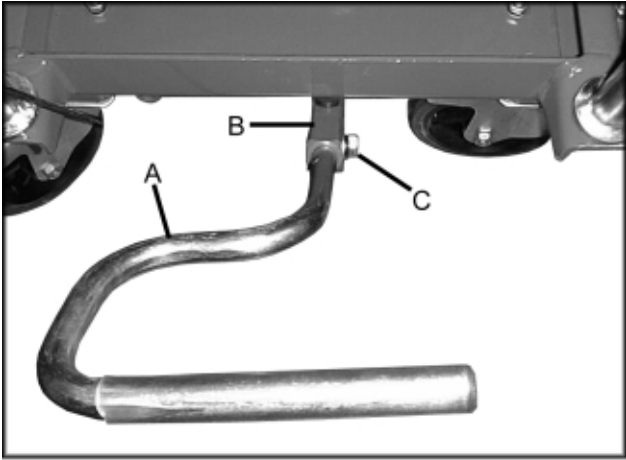

Fig. 2
2. Attach foot lever (A, Fig. 2) to the lever bracket (B, Fig. 2) with one hex cap bolt, one flat washer, one lock washer (C, Fig. 2). Tighten with a 14mm wrench.